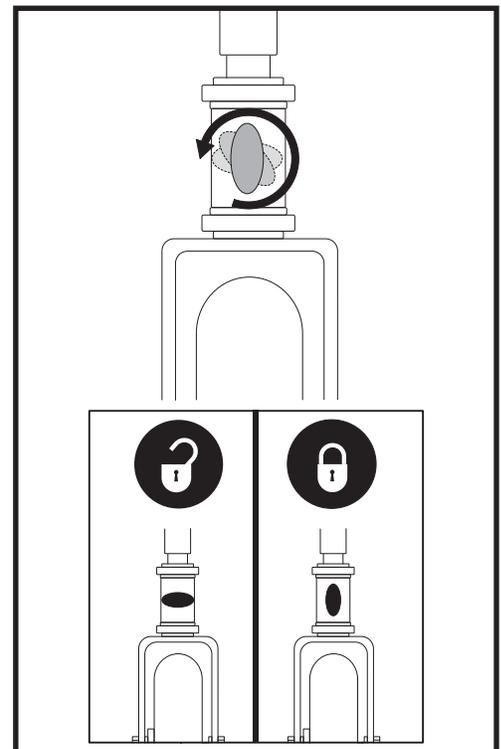

Figure 26. Tiller Lock Knob (Model 104 only)
1. Remove the key from the key switch. *For model 104*, lock the tiller in the straight ahead position by pushing the tiller lock knob in and turning it clockwise 90°. See **figure 26**. The front wheel must face forward in order to lock the tiller.